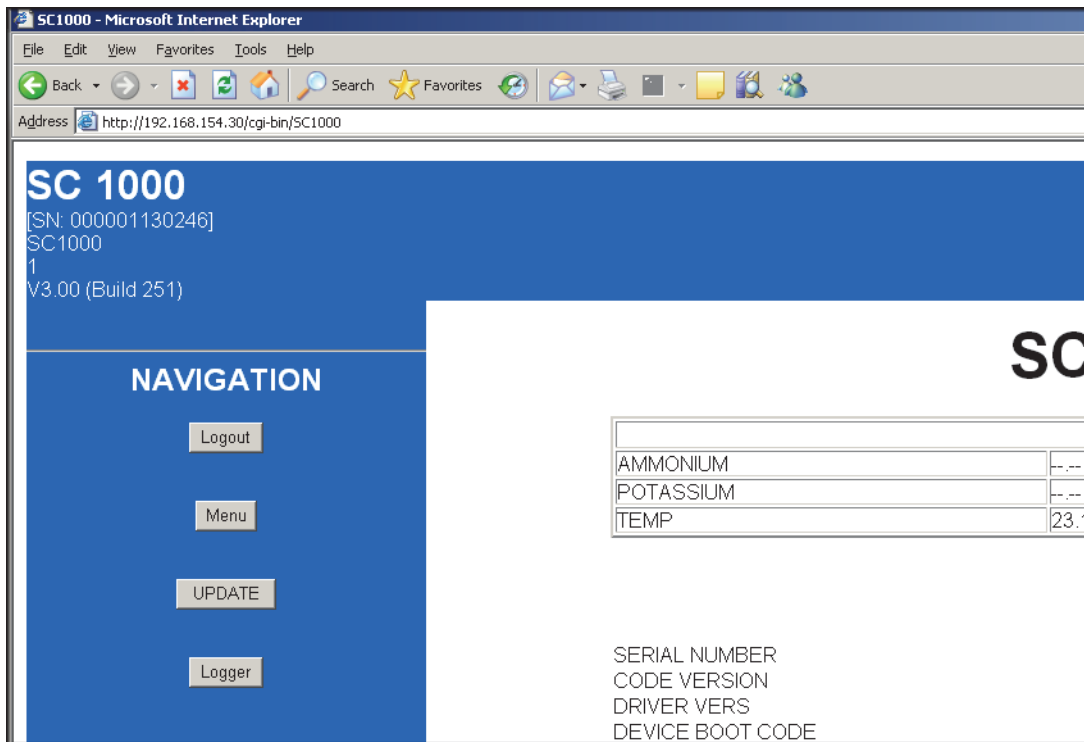

Figure 10 UPDATE button
6. Press the **UPDATE** button under **NAVIGATION** (Figure 10).